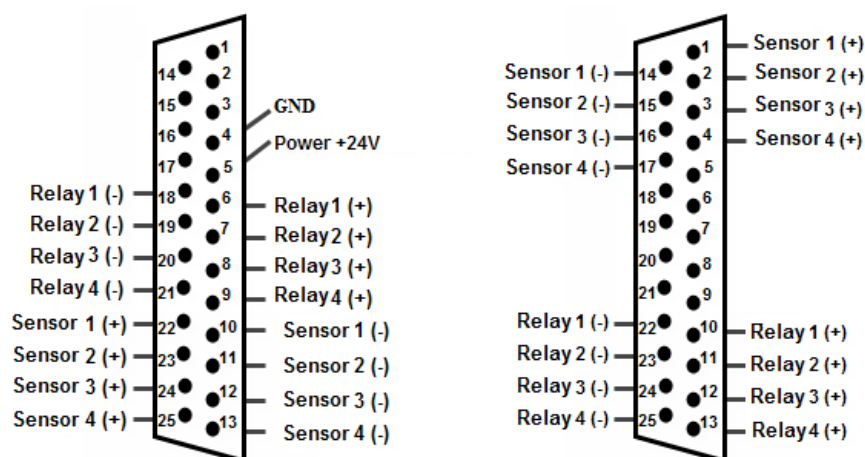

Figure 2.5-2 Jack pinouts of the MO USBIO 4x4 module
2. To connect DI/DO, unsolder the connector included in the distribution kit. Unsoldering is made in accordance with the external connector pinout of the MO USBIO 4x4 module. Depending on module modification one of jack pinout shown in Figure 2.5-2 can be in use.